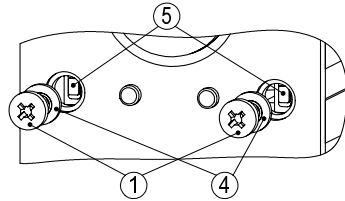

Fig. 7: Inching operation
- Due to the type of protection, only the crosshead screws (1) may be loosened (see fig. 7).
- With the screws (1) of the cover loosened the type of protection of AG03 is no longer guaranteed.
- By pressing the buttons (5), left-hand or right-hand motion can be selected (refer to the manual for a detailed description).
- When remounting the screws (1) take care that the seals (4) are seated correctly!